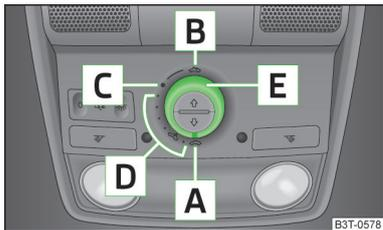
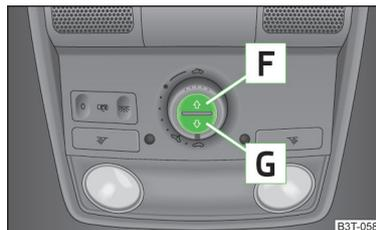

Fig. 47
Fig. 48
- If, for example, the battery has been disconnected and reconnected, it is possible that the sliding/tilting roof does not operate correctly. Next, move the rotary switch into position **A** » Fig. 47 on page 66, pull the recess firmly ▶
■ If, for example, the battery has been disconnected and reconnected, it is possible that the sun screen does not operate correctly. Then turn the switch to position **A** » Fig. 47 on page 66 and press and hold the button **G** » Fig. 48 on page 66. The sun screen opens and closes again after around 10 seconds. Do not release the control dial until it has done so.
➤ Turn the switch to position **C** » Fig. 47.
The sun screen can be closed or opened using the buttons » Fig. 48.
➤ Briefly press the button **F** » Fig. 48 to open fully.
➤ Briefly press the button **G** » Fig. 48 to close fully.